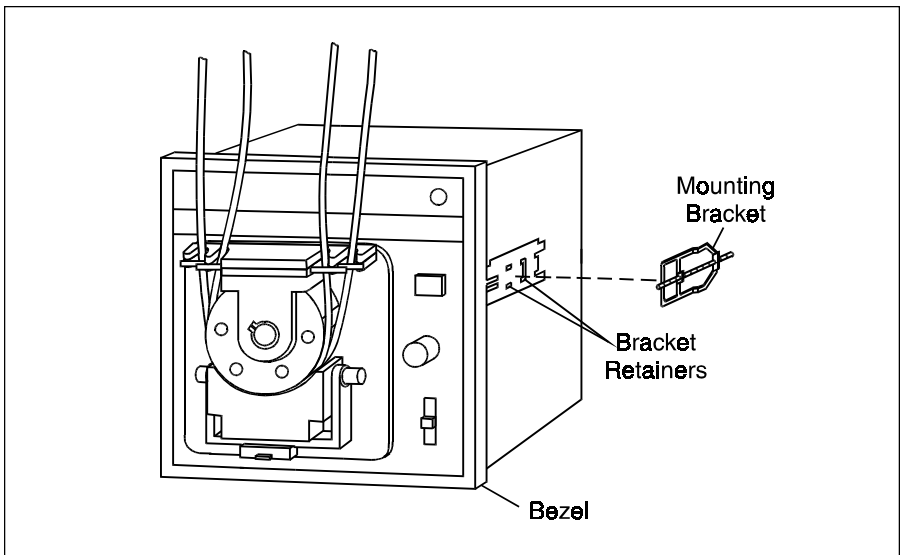

Figure 5. Mounting Bracket Installation
2. Place a Mounting Bracket, Figure 5, between the grooved bracket retainers on one side of the Case and slide the Mounting Bracket back to lock into the retainer grooves.